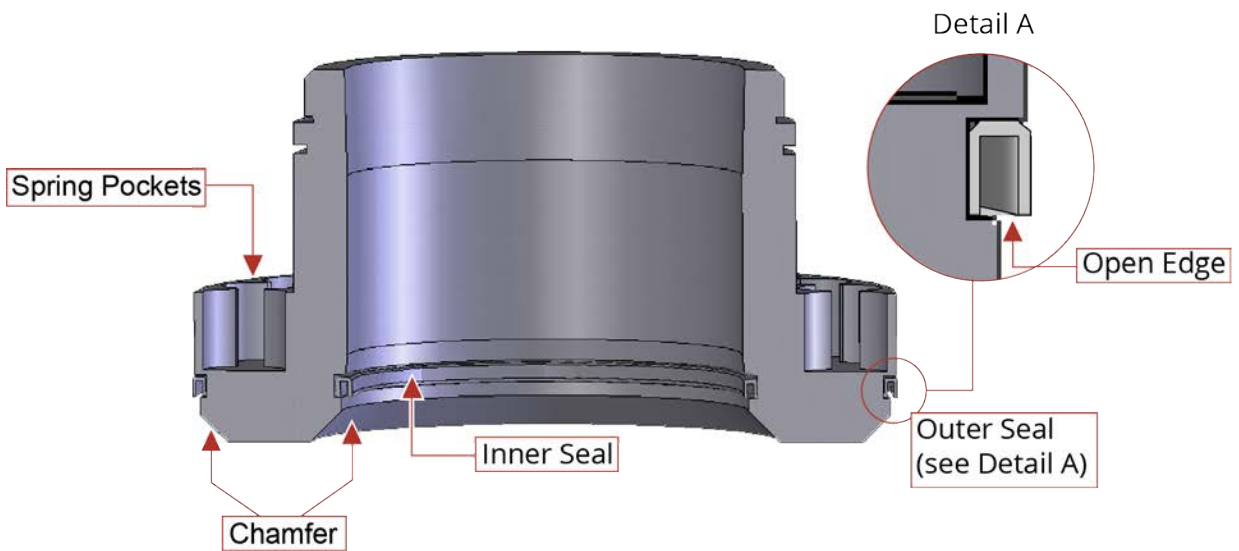

Figure 4-3: Cross-Section View of Piston Showing Seal Orientation
Step 15: Press the new seals over the chamfer and into their respective grooves. Be sure to align the seals such that the open end (when looking at a cross section) is facing away from the collet, as shown in Figure 4-3. The direction of the seal is extremely important in sealing the piston. Make sure that the seals sit into their mounting grooves by running a fingernail around the edge. If the seal is tilted or twisted slightly its function will be severely compromised.